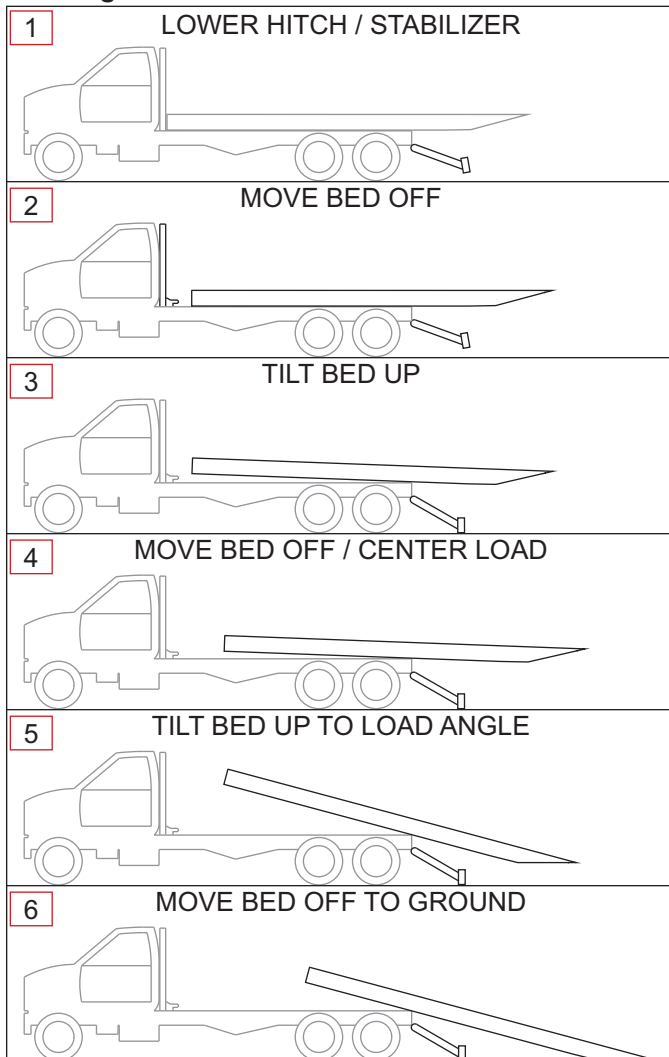

Figure 4-6: Bed Unloading
7. Pull the HITCH DOWN Control Lever to lower the Hitch/Stabilizer to about 6 inches off the ground. **See Figure 4-6 Image 1.**
8. Push the BED OFF Control Lever to move the bed backward enough to clear the Bed Tilt Locks and bulkhead assembly. **See Figure 4-6 Image 2.**
9. Push the TILT UP Control Lever to raise the front of the bed and allow the Hitch/Stabilizer to rest on the ground. This will allow the sub-frame to be supported in the front and back. **See Figure 4-6 Image 3.**
10. Push the BED OFF Control Lever to move the bed backward until the empty bed or load is centered over the rear axle. **See Figure 4-6 Image 4.**
11. Raise the front of the bed to 10 degrees. Alternate between the HITCH UP and TILT UP Control Levers to raise the front of the bed to the load angle. Observe the truck's front tires and adjust the Hitch/Stabilizer as needed to maintain support. Use the rear angle of the bed frame as a reference point, should be parallel to the ground. **See Figure 4-6 Image 5.**
12. Push the BED OFF Control Lever to move the bed backward just before contact with the ground. Fine tune the load angle by alternating between the HITCH and TILT Control Levers. Once angle is obtained, rest the bed on the ground. **See Figure 4-6 Image 6.**